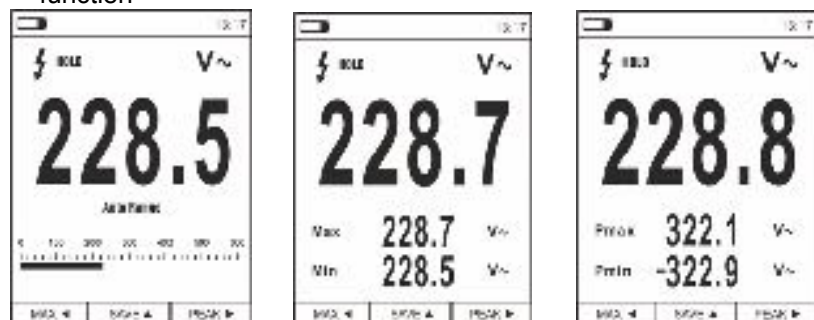

Fig. 9 MIN/MAX and PEAK measurement
1. Press key **MAX** ◀ to enter measurement of MAX and MIN values of the quantity to be measured (see Fig.9 - central part). The symbols “MAX” and “MIN” appear on the display.
6. Press key **PEAK** ▶ to enter measurement of Peak values of the quantity to be measured (see Fig.9 – right side). Symbols “Pmax” and “Pmin” appear on the display and values are updated in the same way as for the MAX/MIN function.